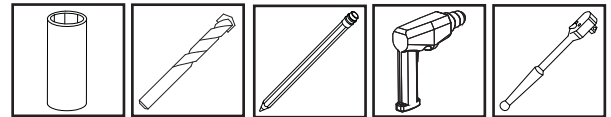

Fig. 7
1. Reconfirm the centerline location for the Yoke (Figure 7).
Prior to drilling the remaining anchor holes, use a tape measure and measure the distance from the bottom bearing plate center to the remaining mounting holes on the Yoke (Figure 7). Adjust the Yoke until these two distances are identical. Mark these two locations.